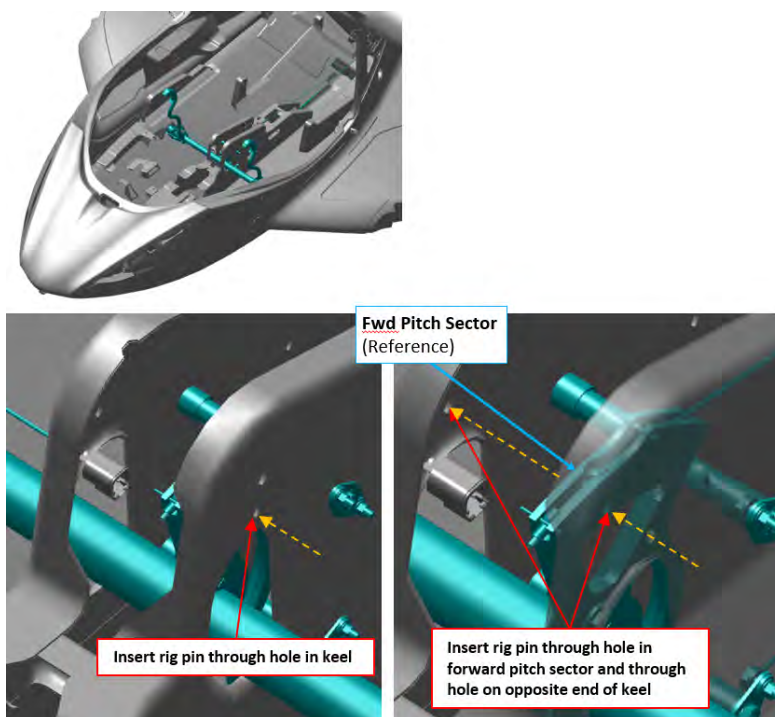

FIGURE 9-9
5. Install .250 in diameter rig pin through the center console and forward pitch sector. See Figure 9-9.